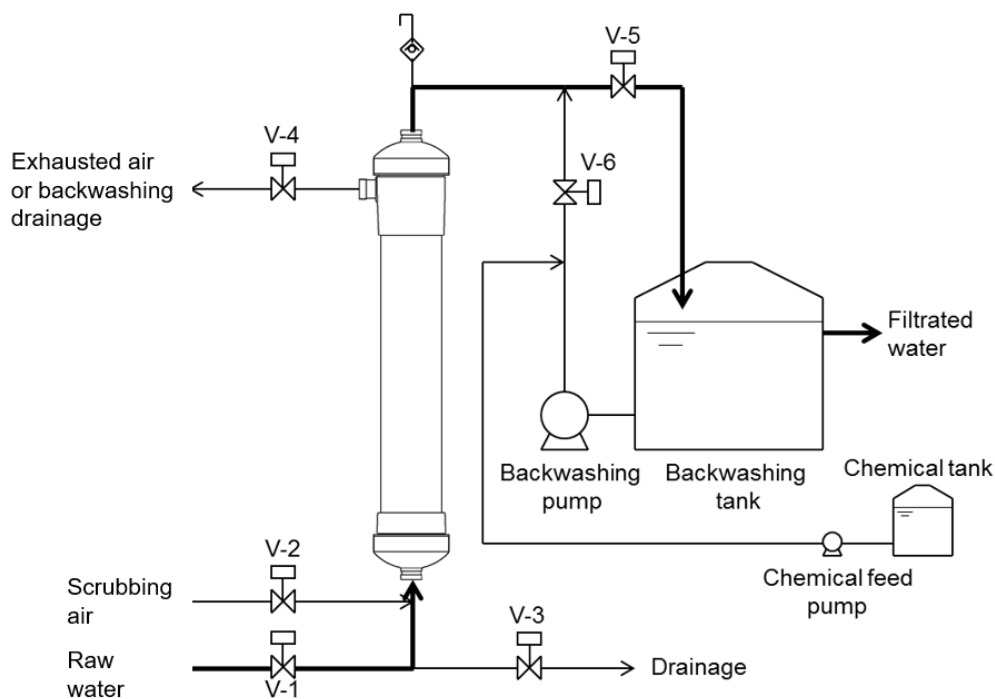

Fig. 4. Typical example of membrane pipe connection
5. Connect the piping to each connection point of the module with Housing type joints and screw (see Fig. 4). For the screw, use plastic connection and tighten by hand. When tightening or loosening the Housing type joints, make certain to maintain sufficient space prior to the work and be careful not to injure one's fingers or other body parts.
- (1) Check that all pipes are connected appropriately and flushed out prior to the operation. Fig. 4 shows a typical example of membrane pipe connection.